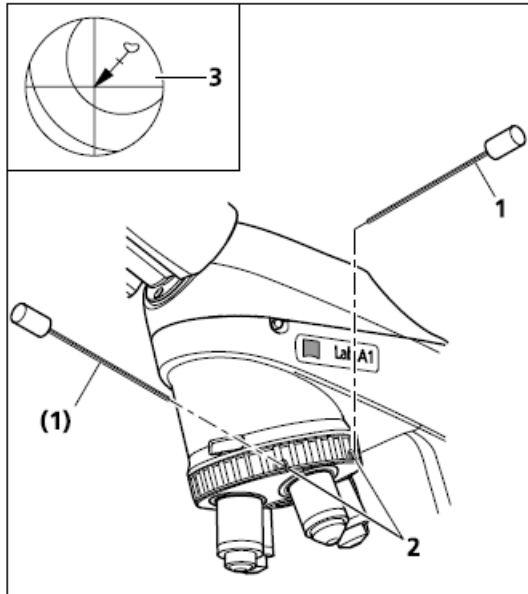

图. 3-14 调中物镜.
- Rotate the stage to determine the position of maximum offset of the specimen feature (Fig. 3-14/3, origin of arrow) from the center of the eyepiece reticle.
- Reset the two centering screws on the stage carrier (Fig. 3-14/2) using one SW 1.5 Allen screw-driver (Fig. 3-14/1) each to move the specimen detail by half the arrow length in the direction of the crossline center. Check whether the specimen detail moves when the stage is rotated again; repeat the procedure, when required.